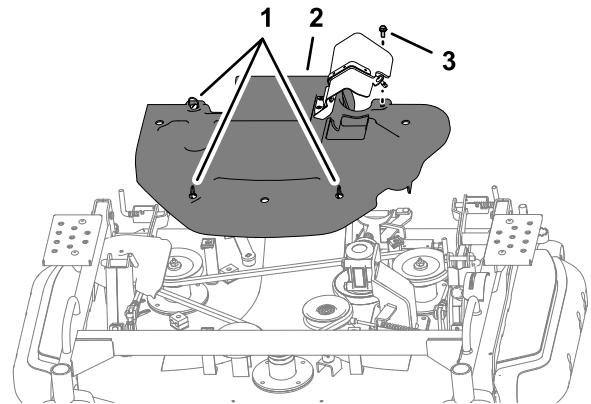

Figure 116
- 1. Rotate the 3 quarter-turn fasteners counterclockwise (Figure 116).
- 2. Loosen the bolt (Figure 116).
- 1. Align the quarter-turn fasteners of the belt cover with the clip nuts of the mower deck; refer to Figure 116 in Removing the Belt Cover (page 76).
- 3. Install the bolt in the belt cover to the nut clip of the mower deck; refer to Figure 116 in Removing the Belt Cover (page 76).